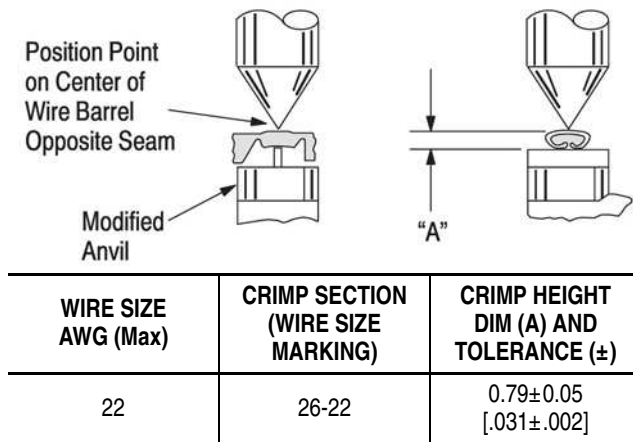

Figure 4
This tool is provided with a crimp adjustment feature. Initially, the crimp height should be verified as specified in Figure 4. Refer to Section 6, Crimp Height Inspection, and Section 7, Crimp Height Adjustment, to verify crimp height before using the tool to crimp desired contacts and wire sizes.
1. Refer to Figure 4 and select a wire (maximum size) for the crimp section.
3. Using a crimp height comparator, measure the wire barrel crimp height as shown in Figure 4. If the crimp height conforms to that shown in the table, the tool is considered dimensionally correct. If not, the tool must be adjusted. Refer to Section 7, CRIMP HEIGHT ADJUSTMENT.